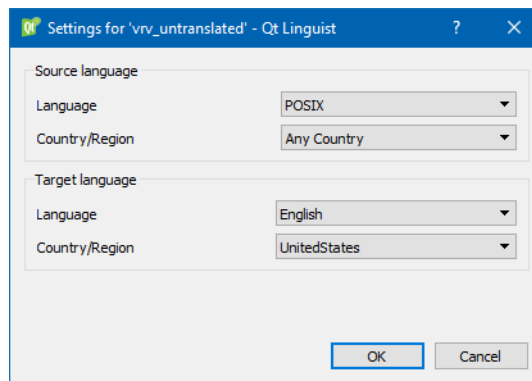

Figure 1-7. Linguist settings dialog box
2. In the Qt Linguist window, choose **File** → **Open**. Select the file `./translations/product_untranslated.ts`. The Settings for `filename` dialog box opens (Figure 1-7).